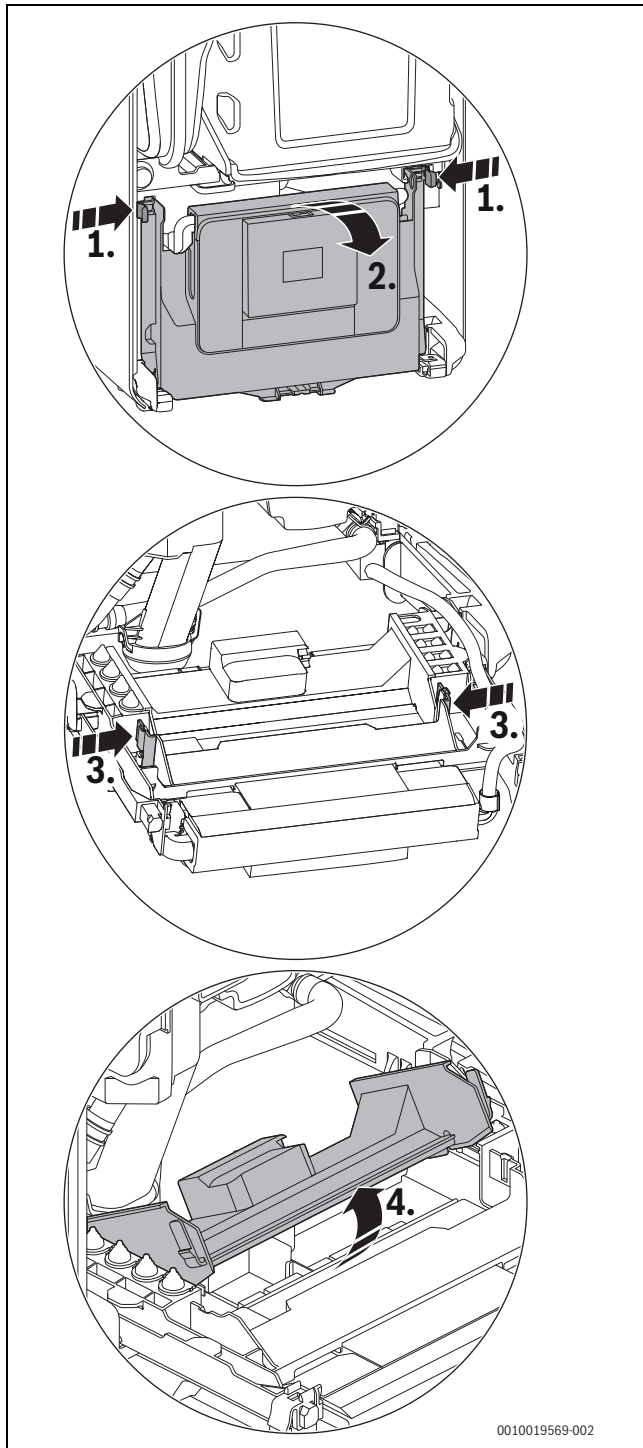

Fig. 56 Opening the cover
If the power cable is of insufficient length and is to be replaced, access the connection terminal (→ Fig. 56)
- ▶ Flip down the control appliance (→ Fig. 56).
- ▶ Flip down the control unit(→ Fig. 56).